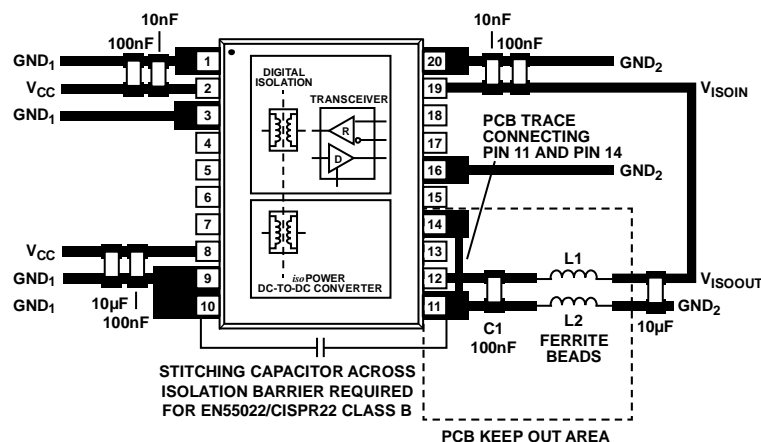

Figure 35. Recommended PCB Layout
The ADM2582E/ADM2587E isolated RS-422/RS-485 transceiver contains an *isoPower* integrated dc-to-dc converter, requiring no external interface circuitry for the logic interfaces. Power supply bypassing is required at the input and output supply pins (see Figure 35). The power supply section of the ADM2582E/ADM2587E uses a 180 MHz oscillator frequency to pass power efficiently through its chip-scale transformers. In addition, the normal operation of the data section of the *iCoupler* introduces switching transients on the power supply pins.
The ADM2582E/ADM2587E features an internal split paddle, lead frame on the bus side. For the best noise suppression, filter both the GND₂ pins (Pin 11 and Pin 14) and V_{ISOOUT} signals of the integrated dc-to-dc converter for high frequency currents. Use surface-mount ferrite beads in series with the signals before routing back to the device. See Figure 35 for the recommended PCB layout. The impedance of the ferrite bead is chosen to be about 2 kΩ between the 100 MHz and 1 GHz frequency range to reduce the emissions at the 180 MHz primary switching
- Do not connect the V_{ISOOUT} pin to a power plane; connect between V_{ISOOUT} and V_{ISOIN} using a PCB trace. Ensure that V_{ISOIN} (Pin 19) connects through the L1 ferrite to V_{ISOOUT} (Pin 12), as shown in Figure 35.
- Ensure that GND₂ (Pin 16) is connected to GND₂ (Pin 11) on the outside (bus side) of the L2 ferrite, as shown in Figure 35.
The ADM2582E/ADM2587E dissipate approximately 650 mW of power when fully loaded. Because it is not possible to apply a heat sink to an isolation device, the devices primarily depend on heat dissipation into the PCB through the GND pins. If the devices are used at high ambient temperatures, provide a thermal path from the GND pins to the PCB ground plane. The board layout in Figure 35 shows enlarged pads for Pin 1, Pin 3, Pin 9, Pin 10, Pin 11, Pin 14, Pin 16, and Pin 20. Implement multiple vias from the pad to the ground plane to reduce the temperature inside the chip significantly. The dimensions of the expanded pads are at the discretion of the designer and dependent on the available board space.